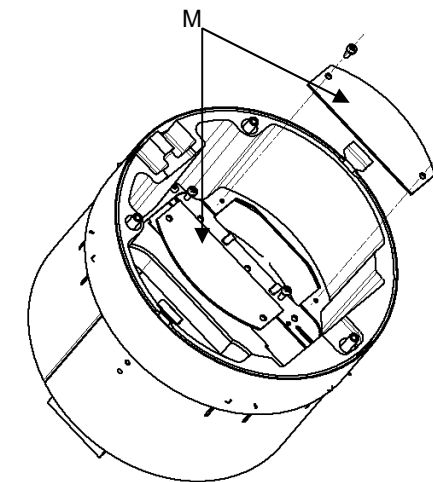

Fig. 6
9. Two blank cover plates (M) are shipped with the fitting. Install both blank cover plates (M) into service fitting, see Fig. 6. Torque screws to 6-10 in-lbs (0,7-1,1 Nm). **Both blank plates (M) must be installed to maintain UL classification.**